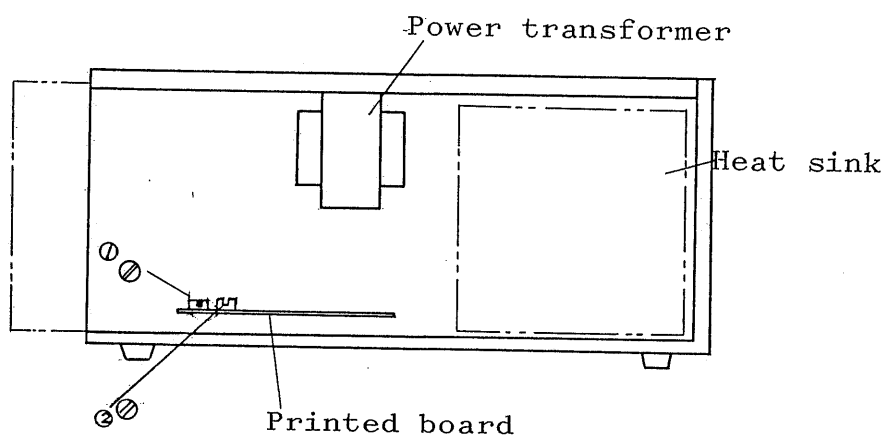

Fig. 9
Turn the voltage control knob on the front panel fully counterclockwise, and adjust the semi-fixed resistor on the printed board (on the circuit pattern side; marked ① in Fig. 9) so that the voltage between output terminals is approximately 0 V. After conducting the maximum voltage adjustment (Item 5.2 below), readjust this voltage to be within a range of  $\pm 0.5$  V.
Turn the voltage control knob on the front panel fully clockwise, and adjust the semi-fixed resistor on the printed board (on the side more parts are located; marked ② in Fig. 9) so that the voltage between output terminals is the rated maximum voltage.